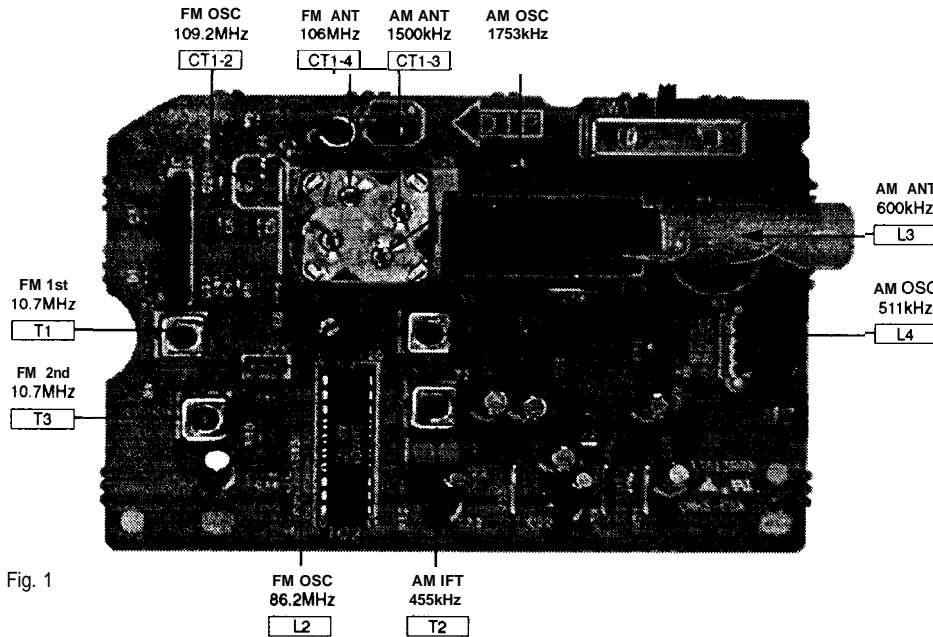

Fig. 1
1. Connect the oscilloscope's CH. 1 probe across **TJ701** (RF) (+) and **TJ702** (V-Ref.) (-) on the servo P.C.B. (Refer to Fig. 1 on page 29)